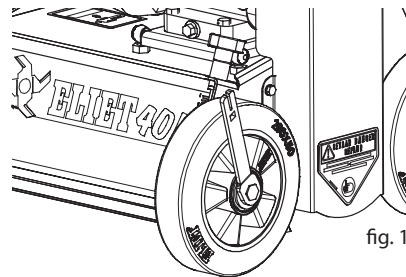

fig. 1
4. Using the wrench loosen the bolts of the front wheels half a turn (fig. 1)